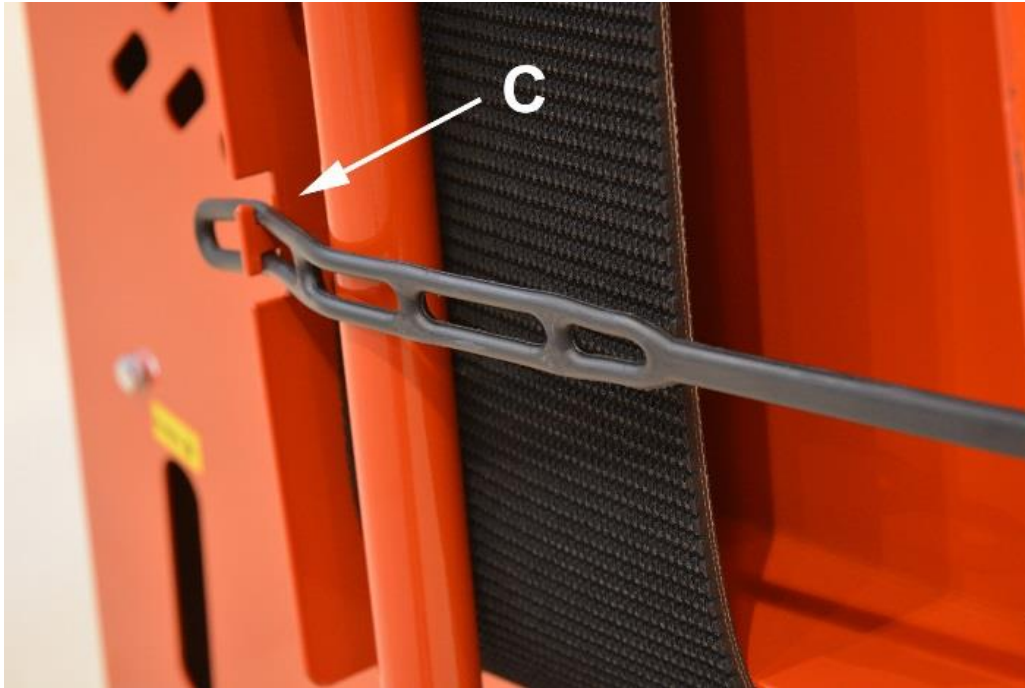
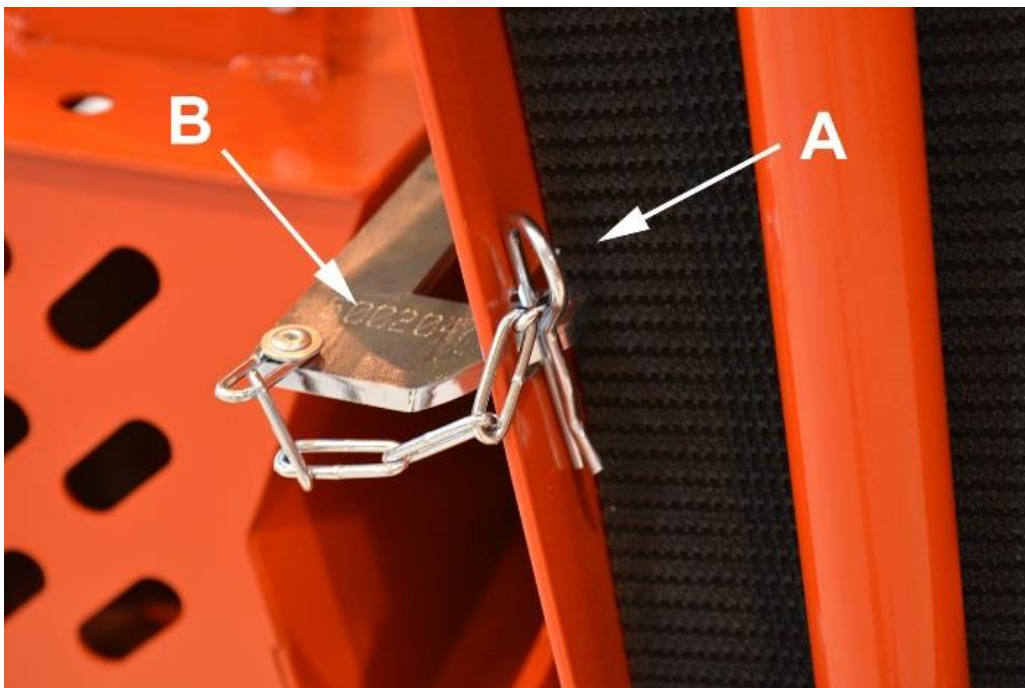

Figure 2.
Figure 3.
2. Remove the other end of the support leg holder C from the lug (Figure 2).
3. Release the lock by removing pin A and turning locking latch B out of its slot (Figure 3).
When placing the in-feed conveyor in the transport position, lift the conveyor to the upper position, turn locking latch B into its slot and insert pin A (Figure 3). Use holder C to lock the support leg in place (Figure 2).